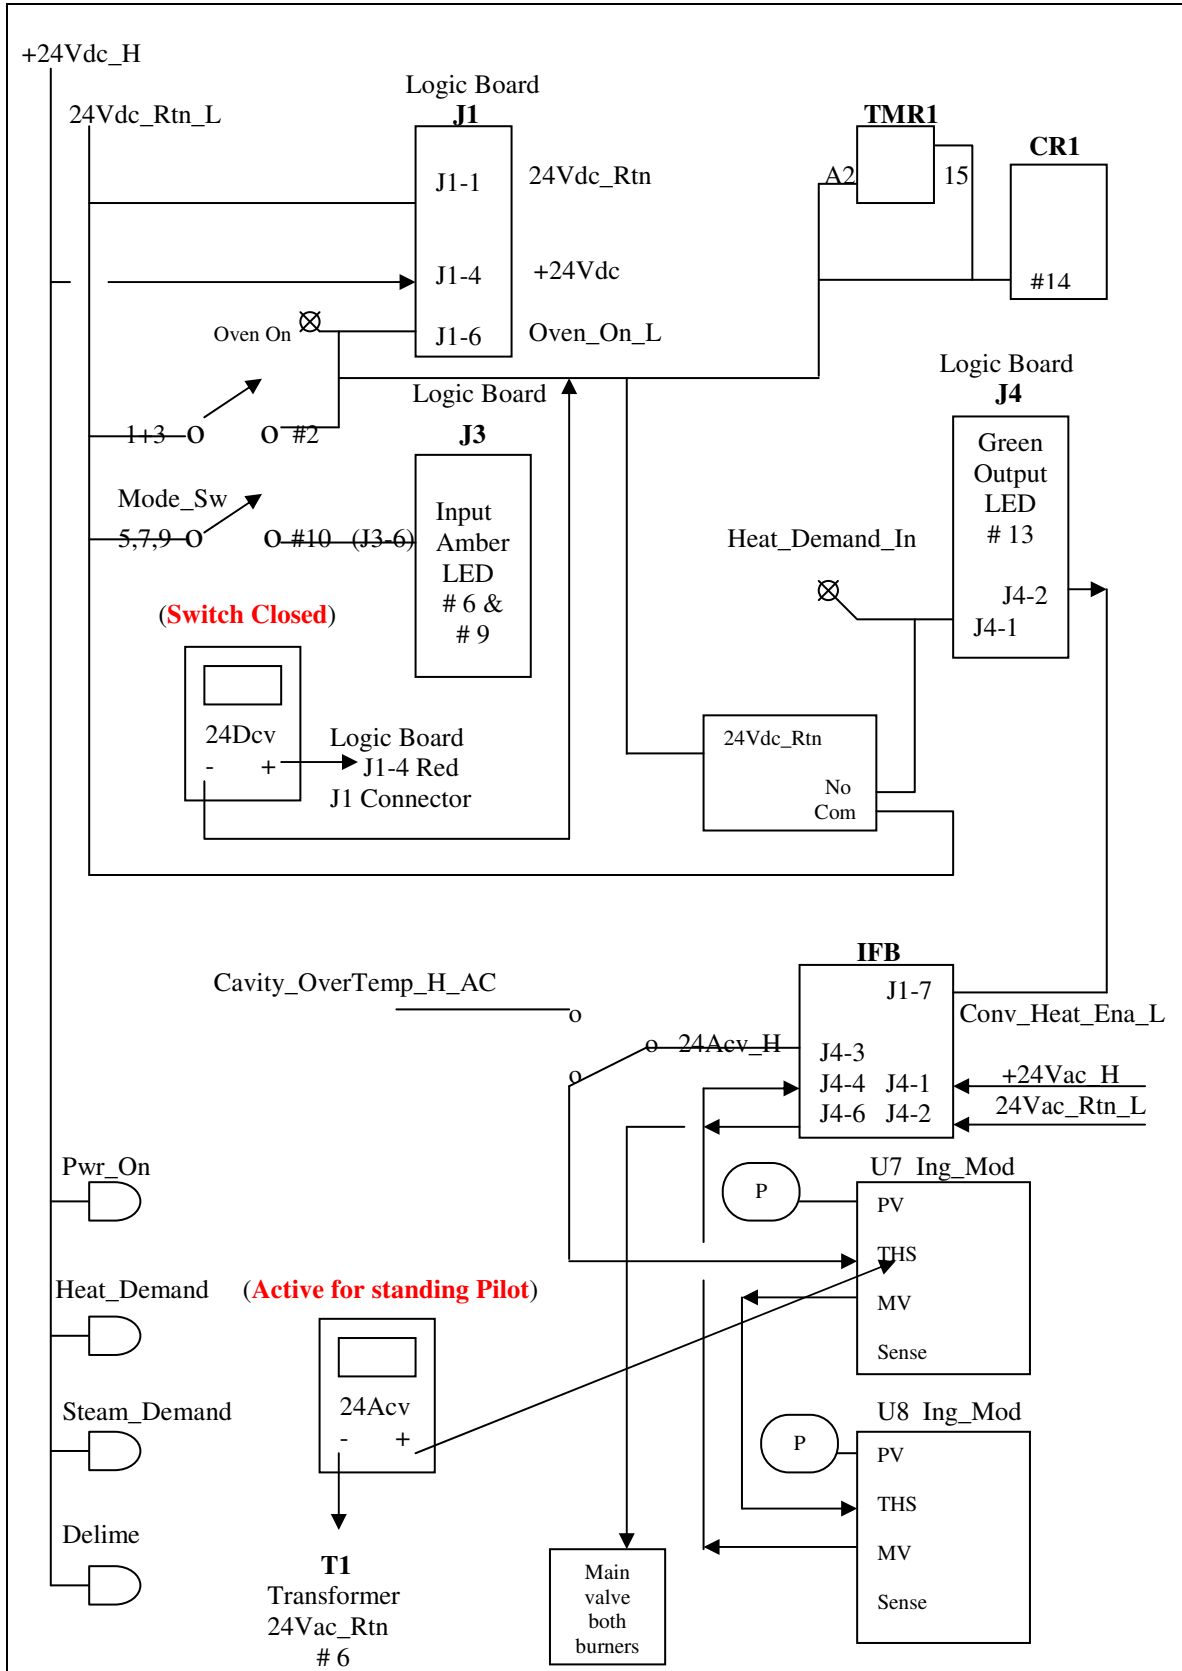

FIGURE 4
9. See the Hot air troubleshooting flow chart (FIGURE 4).